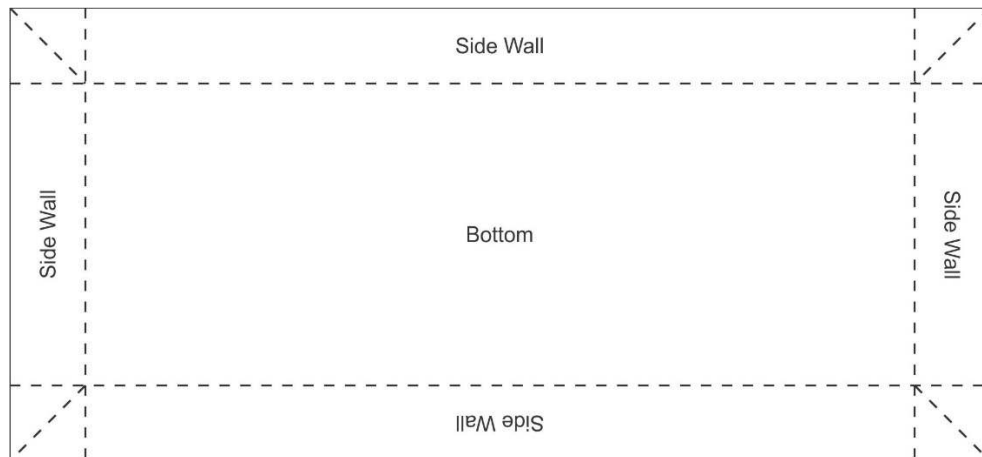

Figure 14
19. There are a few different techniques for folding a liner around the corners. The most common method is to take each corner and crease it inward (along the diagonal lines shown in Figure 14), then fold it against the end wall of the frame. Two clips should be used to secure it into place. If you are not familiar with folding the liner, we recommend practicing on a piece of paper and make a small “tray” with it.